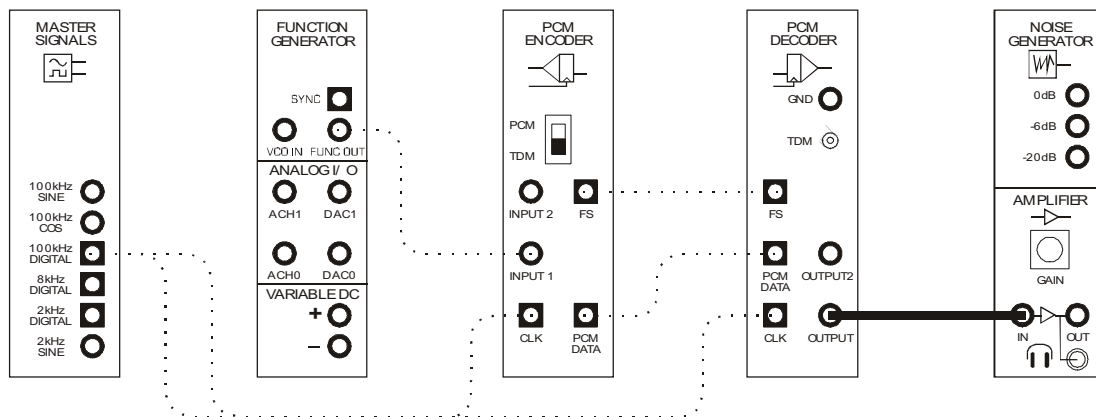

Figure 7
33. Add the Amplifier module to the set-up as shown in Figure 7 below leaving the scope's connections as they are.